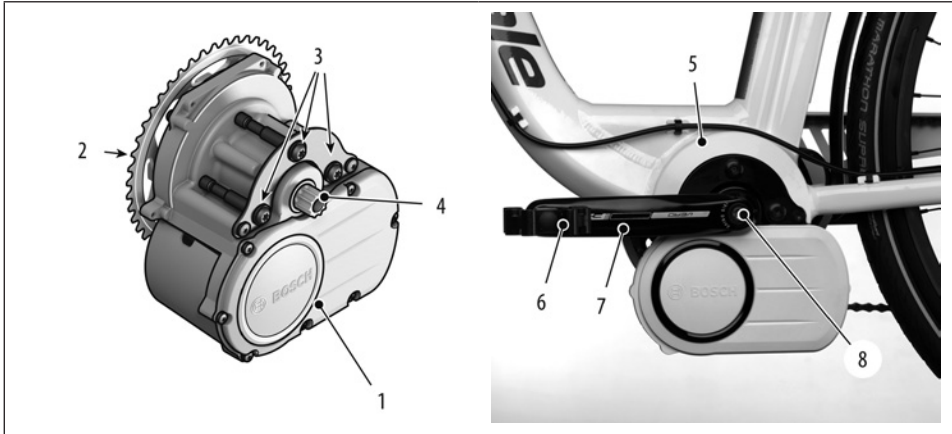

Figure 2.
See Figure 2. The BOSCH drive unit (1) is mounted to the frame bottom bracket node (5). Control cables from the HMI unit, battery, and speed sensor are routed to the unit inside the frame.